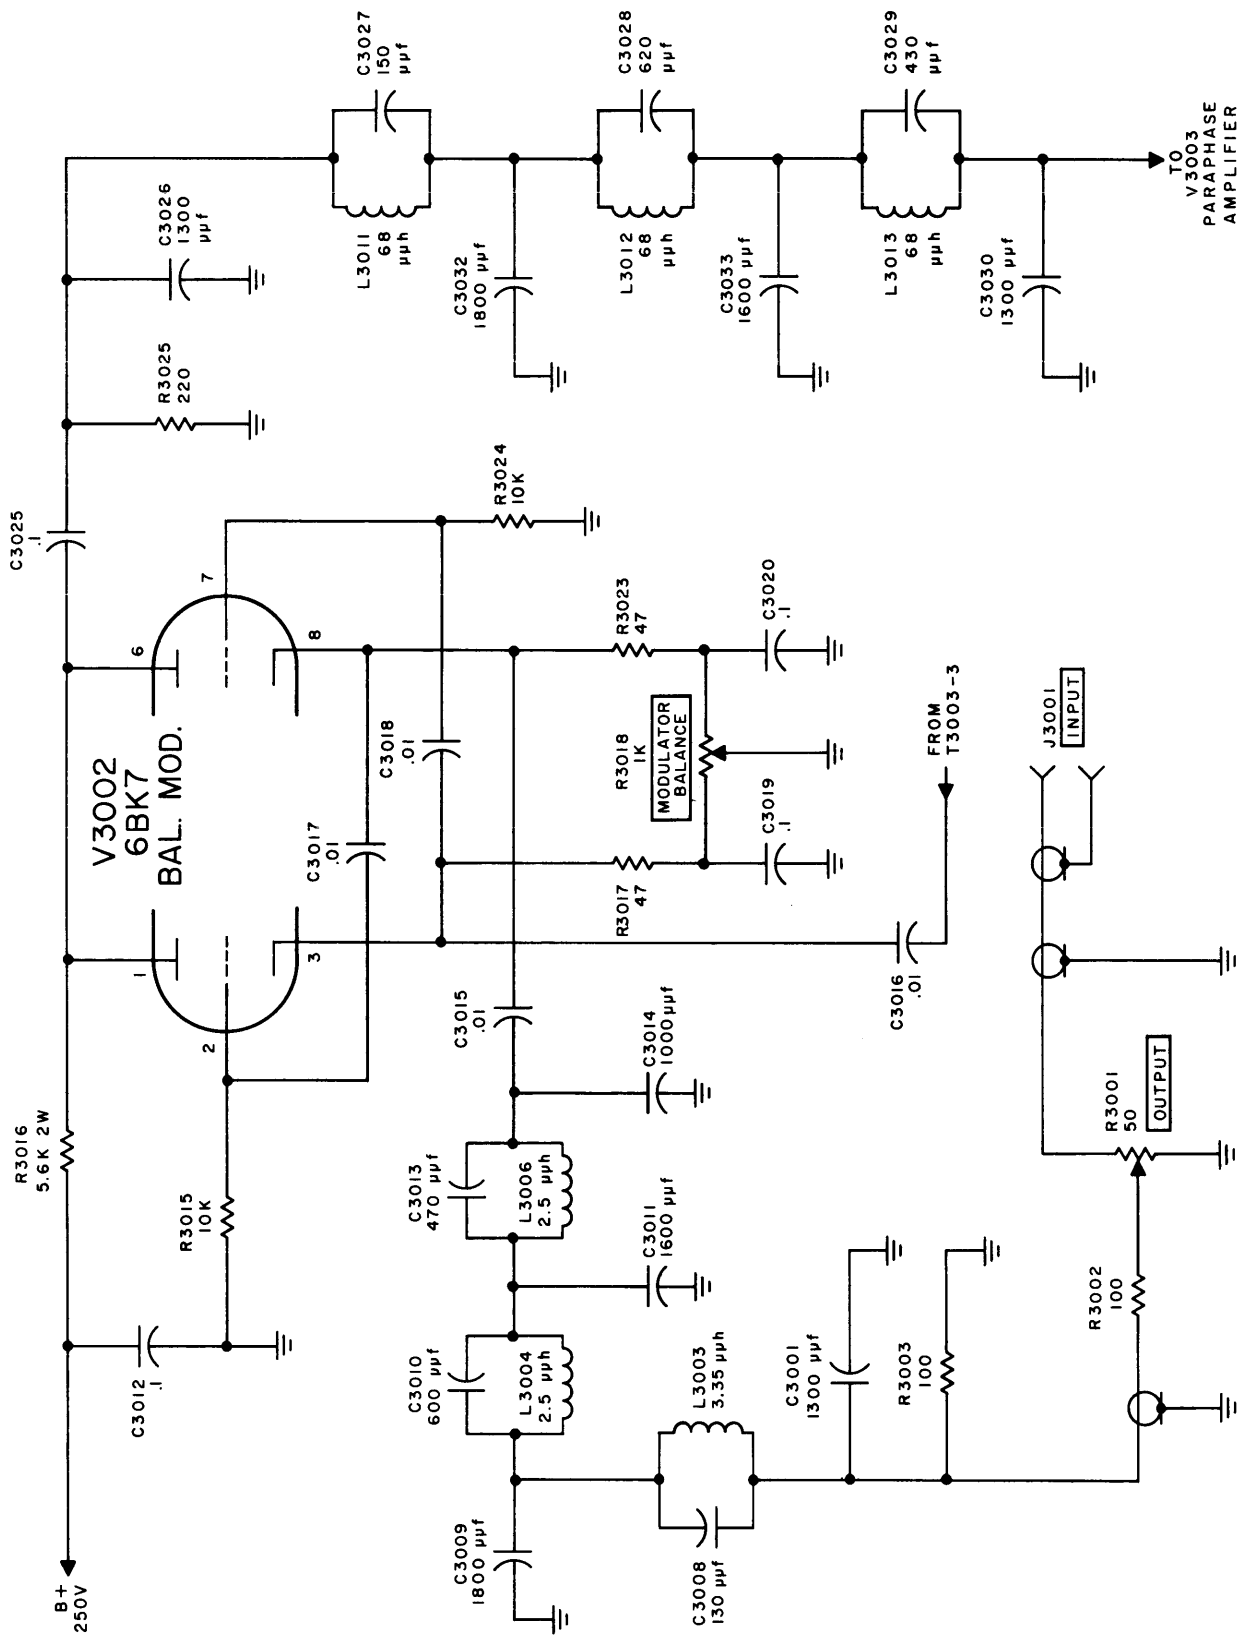

Figure 4-2. Balanced Modulator, Simplified Schematic Diagram
Paragraph 4-3 is a functional description of the various circuits comprising the LFA-4 to be used in conjunction with figures 4-2 through 4-5.
This output signal is the resultant or difference frequency of the 2.5 mc input signal and the 2 mc drive signal from oscillator doubler V3001. See figure 4-2.
- c. Simplified schematic diagrams (figures 4-2 through 4-5).